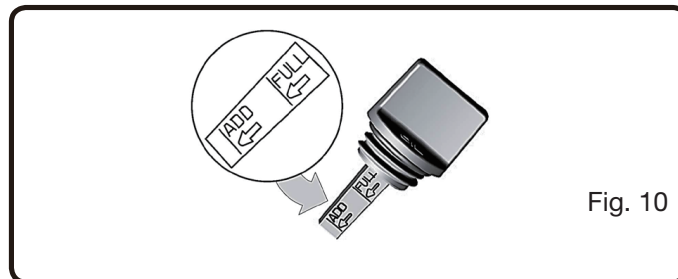

Fig. 10
5. When oil level is full, the oil will be at upper limit on dipstick. If oil level is near or below the lower limit, oil must be added. (See Fig.10)